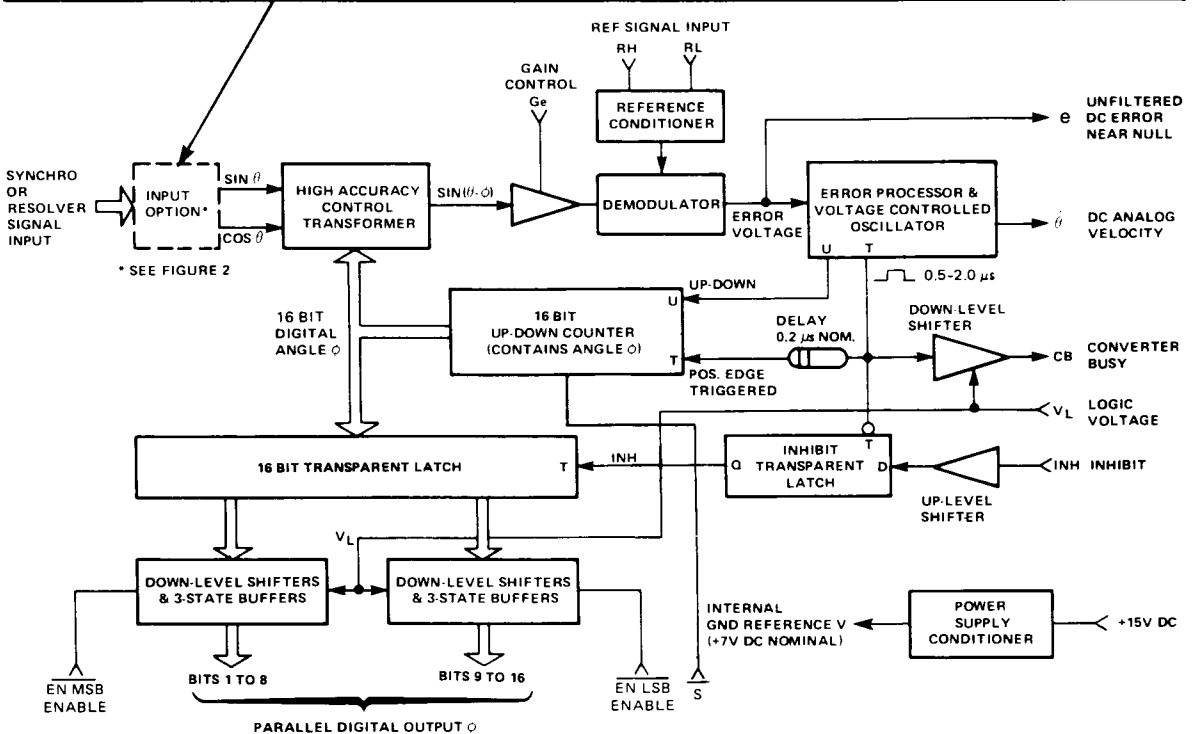

FIGURE 1. SDC-14520 SERIES BLOCK DIAGRAM
The circuit shown in the SDC-14520 block diagram, Figure 1, consists of three main parts: the signal input option; a feedback loop whose elements are the control transformer, demodulator, error processor, and up-down counter; and digital interface circuitry including various latches and buffers.
Logic outputs consist of 16 parallel data bits and a Converter Busy (CB). All logic outputs are short-circuit proof to ground and to positive voltages as high as V_L . The CB output is a positive 0.5–2.0 μs pulse, and data changes about 0.2 μs after the leading edge of the pulse because of an internal delay (see Figure 1). Data is valid 0.5 μs after the leading edge of a CB.
The inhibit (INH) logic input locks the 16 bit transparent latch so that the bits will remain stable while data is being transferred (see Figure 1). The output is stable 0.5 μs after the Inhibit is driven to logic 0. A logic 0 at the T input locks the 16 bit latch, and a logic 1 allows the bits to change. The purpose of the INH transparent latch is to prevent the transmission of invalid data when there is an overlap between the CB and INH. While the counter is not being updated the CB is at logic 0 and the INH latch is transparent. When the CB goes to logic 1 the INH latch is locked. If a CB occurs after an INH has been applied, the 16 bit latch will remain locked and its data cannot change until the CB returns to logic 0. If an INH is applied during a CB pulse, the 16 bit latch will remain locked and its data cannot change until the CB returns to logic 0. If an INH is applied during a CB pulse, the 16 bit latch will not lock until the CB pulse is over. The purpose of the 0.2 μs delay is to prevent a race condition between the CB and the INH in which the up-down counter begins to change just as an INH is applied.